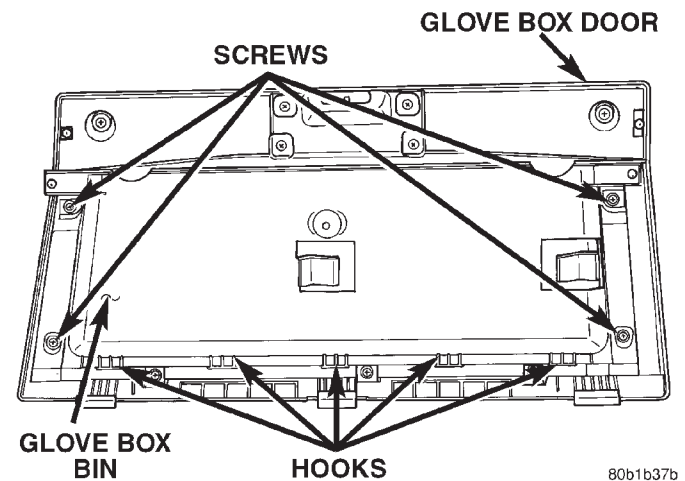

Fig. 20 Glove Box Bin Remove/Install
(1) Disconnect and isolate the battery negative cable.
(2) Remove the glove box from the instrument panel. See Glove Box in the Removal and Installation section of this group for the procedures.
(3) Remove the two screws that secure each out-board flange of the glove box bin to the glove box door (Fig. 20).